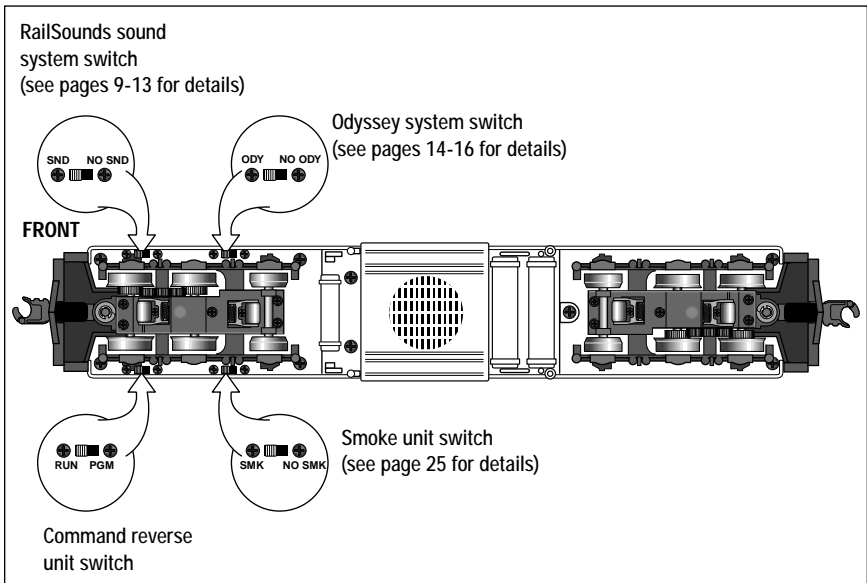

Figure 1. Switch locations
To “lock” your locomotives into a single direction (for example, to operate in forward only), you can deactivate the Command reverse units’ sequencing function. Refer to Figure 1 for the location of the Command reverse unit switch on each unit.
To silence the diesel roar, slide the RailSounds sound system switch located on the underside of the locomotives (refer to Figure 1 on page 7) to the NO SND position before you power up the locomotive set or after the locomotive set has been powered down for a minimum of ten seconds. The horn and bell sounds will still be active. To adjust the volume, use the volume control knob located beneath the roof-top hatch.
1. Slide the Odyssey switches to the ODY position. Refer to Figure 1 on page 7 for the location of the switch.
In the TrainMaster Command Control environment, you can use your CAB-1 Remote Controller to turn the Odyssey System on or off. The position of the Odyssey System switch (see Figure 1 on page 7) is the Odyssey System default setting when you power up the locomotives. You can override the default setting with the following commands. The override settings will be cleared and the default setting will be restored when you power down the locomotive.